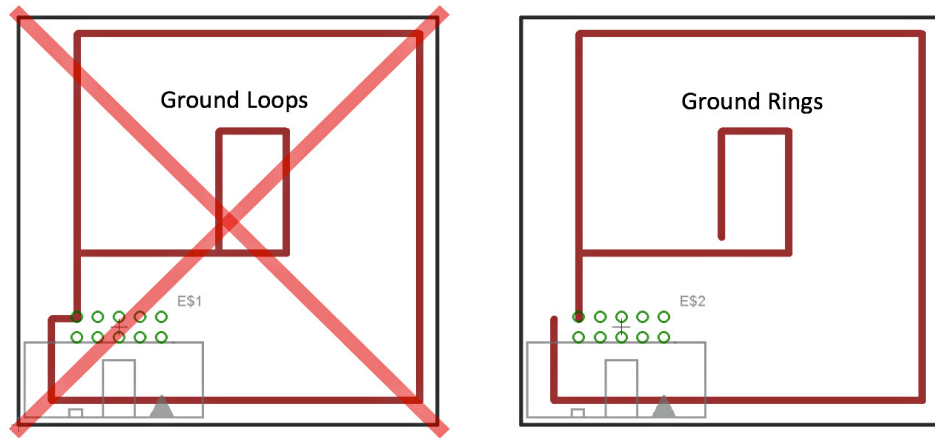

Figure 6. Ground loop vs. ground ring.
- Make use of guard traces/surfaces at edge of PCB, connected to ground, stitching together ground traces on top and bottom layer (see Figure 6)
- Avoid ground loops (common impedance) (see Figure 6)